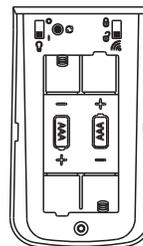

Figure 16
- Remove the battery cover from the remote control (H). Install 2 AAA batteries (J). Replace the battery cover. (Figure 16)